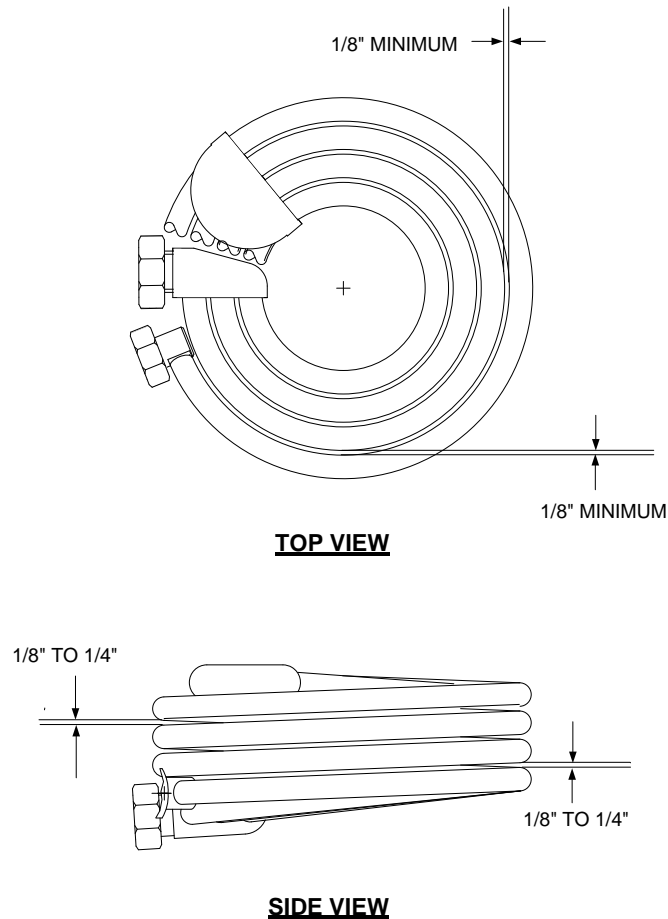

Figure 15: Coil Assembly Spacing
- 6) Form the Coil by creating a 1/8" minimum gap between the individual tubes and a 1/8" to 1/4" gap between the four layers of tubes as shown in Figure 15. Maintain a flat surface on the top and bottom tube surface of the Coil.